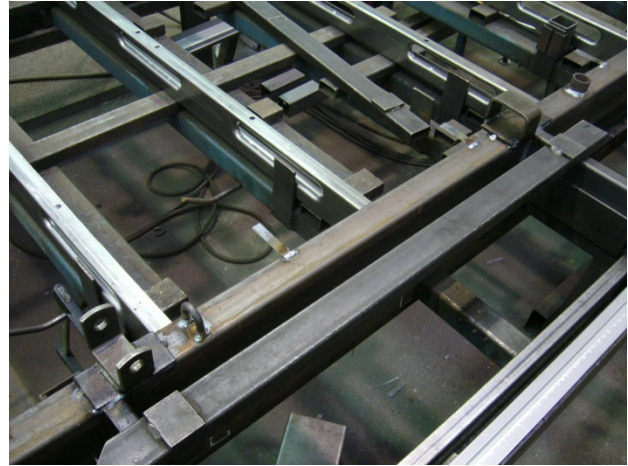
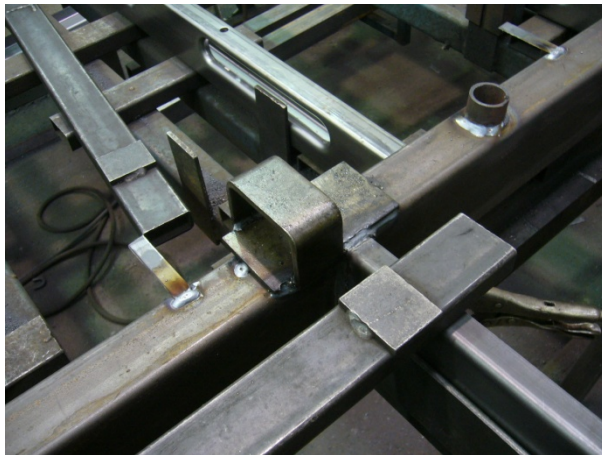

Figure 1
Figure 2
STEP 2 Weld the front and rear hangers square to the chassis rail. Figure 1 shows a jig that is used to position the hangers for high volume production. Figure 2 & 3 show both hangers adjacent to the jig. An actual spring set may be used in the same way. AL-KO recommends tack welding all hangers first before welding. (weld only along the chassis rail, welding across may distort chassis rail)